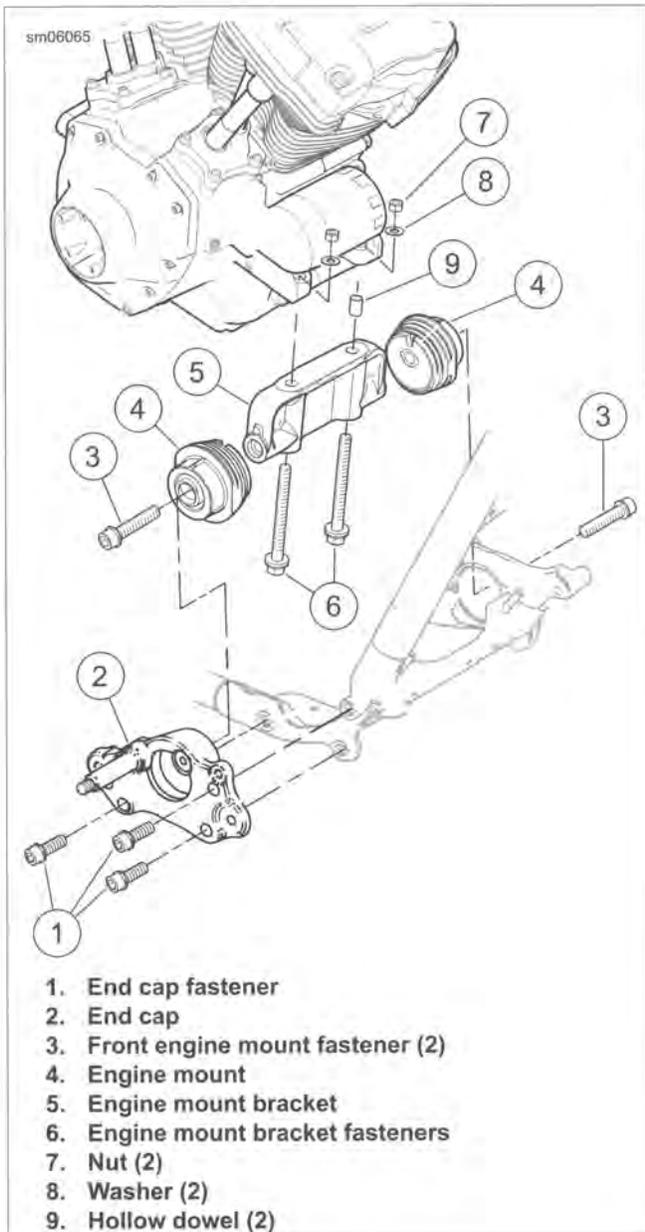

Figure 2-176. Front Engine Mount
6. See Figure 2-176. Loosen, but do not remove, front engine mount fasteners (3).
- a. Remove nuts (7), washers (8) and engine mount bracket fasteners (6).
- b. Remove end cap fasteners (1) and end cap (2).
- c. Remove engine mount bracket (5) with attached engine mounts (4).
6. See Figure 2-176. Tighten engine mount bracket fasteners (6) to 36-40 ft-lbs (48.8-54.2 Nm). Verify engine mount snubbers are still centered and correct as necessary.
7. Tighten end cap fasteners (1) to 42-48 ft-lbs (56.9-65.0 Nm).
8. Tighten front engine mount fasteners (3) to 40-50 ft-lbs (54.2-67.8 Nm).
- See Figure 2-176. Tapered end of engine mounts (4) face engine mounting bracket (5).
1. Install engine mounts (4) to engine mount bracket (5). Verify the notches and tabs are aligned and install fasteners (3) finger-tight.
3. Install end cap (2) over right engine mount and secure with end cap fasteners (1) finger-tight.